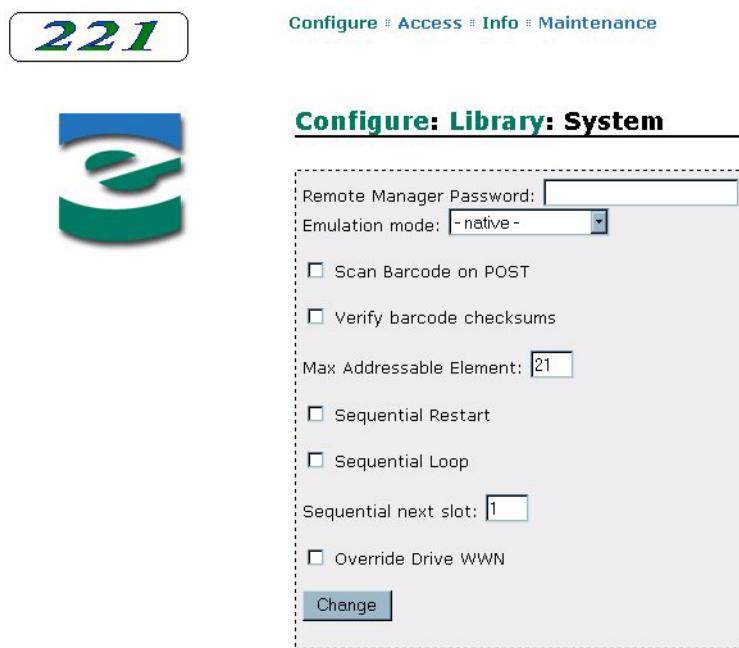

Figure 6-14 Remote management utility – Library System Configuration page
3. Click on Configure library system. A page similar to Figure 6-14 appears.